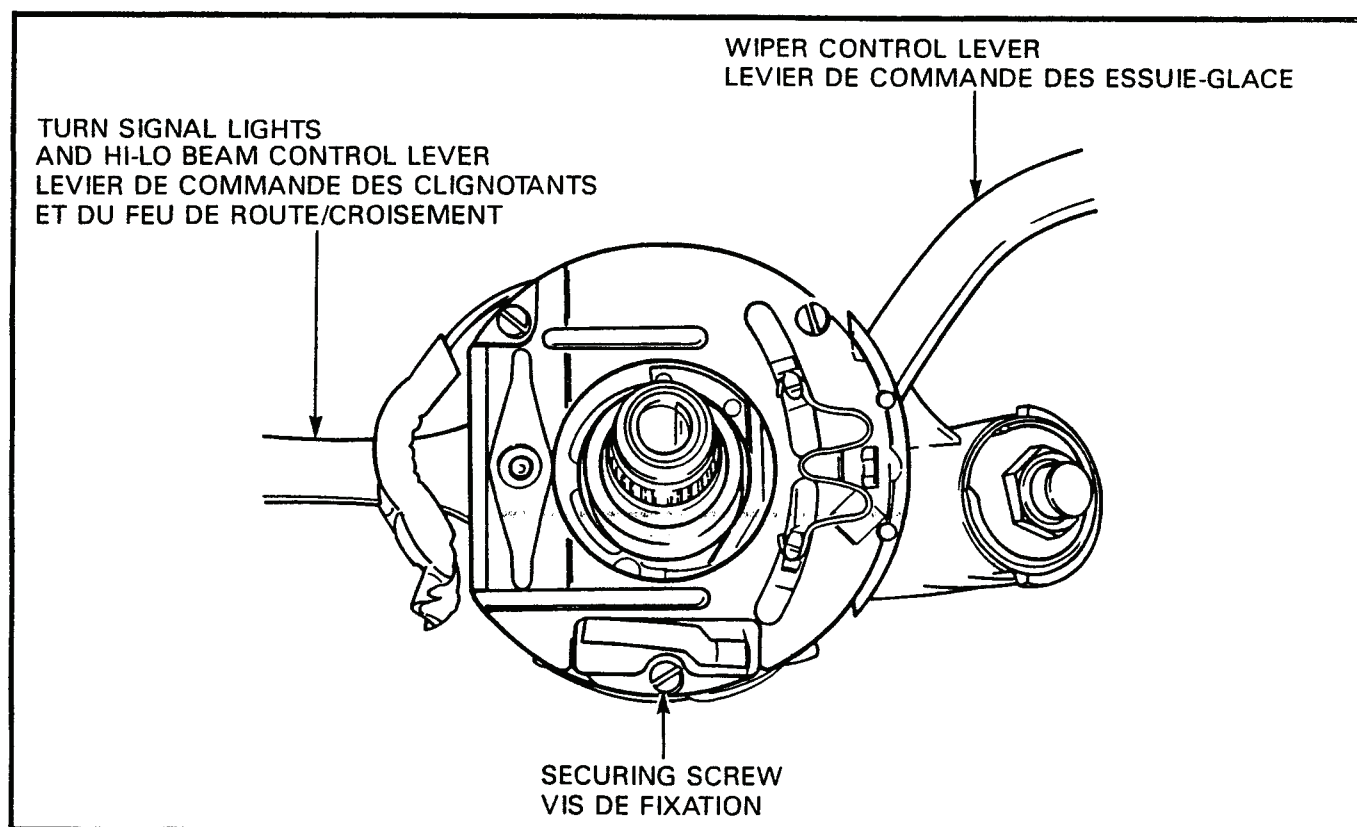

Figure 5-2-3 Turn Signal Lights and Hi-Low Beam Control Lever Securing Screws
- e. Remove the three securing screws, see Figure 5-2-3, and remove the control levers.
- e. Enlever les trois vis de fixation, voir figure 5-2-3, et enlever les leviers de commande.